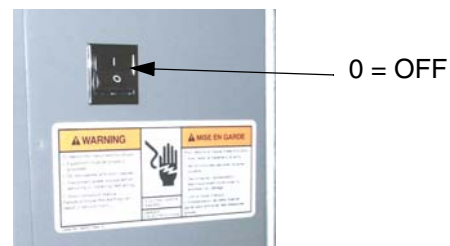

FIG. 10
4. Shut off ProMix™ Auto power (0 position). FIG. 10.